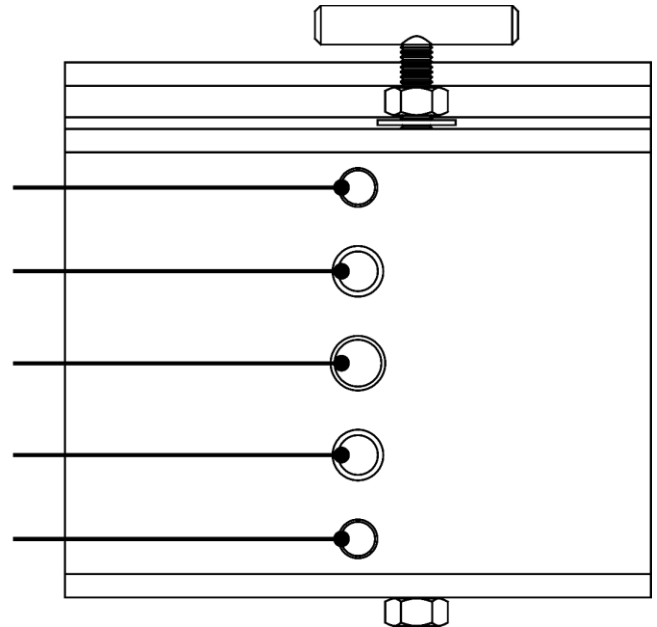

Fig. 07
The WLL (Working Load Limit) of the device depends on which of the **5 x mounting threads (02)** the load is attached to. See Fig. 07.